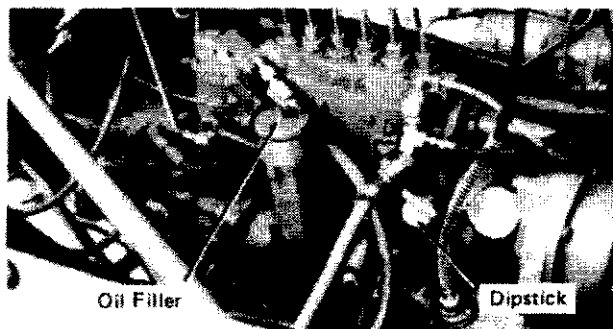

Fig. 30 Location of oil filler and dipstick
180. At oil change period, run engine until engine coolant reaches normal operating temperature. Shut down engine and drain crankcase before engine cools. Remove spin-on oil filters (item 2) using a filter clamp strap. Pre-fill each new full flow oil filter through the outer holes with 1.9 litres of OMD-115 engine oil. Take care to avoid any contaminants entering new filters while pre-filling. Install new filters as instructed on filter body. Fill crankcase with recommended oil and number of litres required. Run engine for about five minutes and check for leaks. Stop engine and recheck level; add make-up oil, if necessary, to correct level on dipstick (fig. 30).